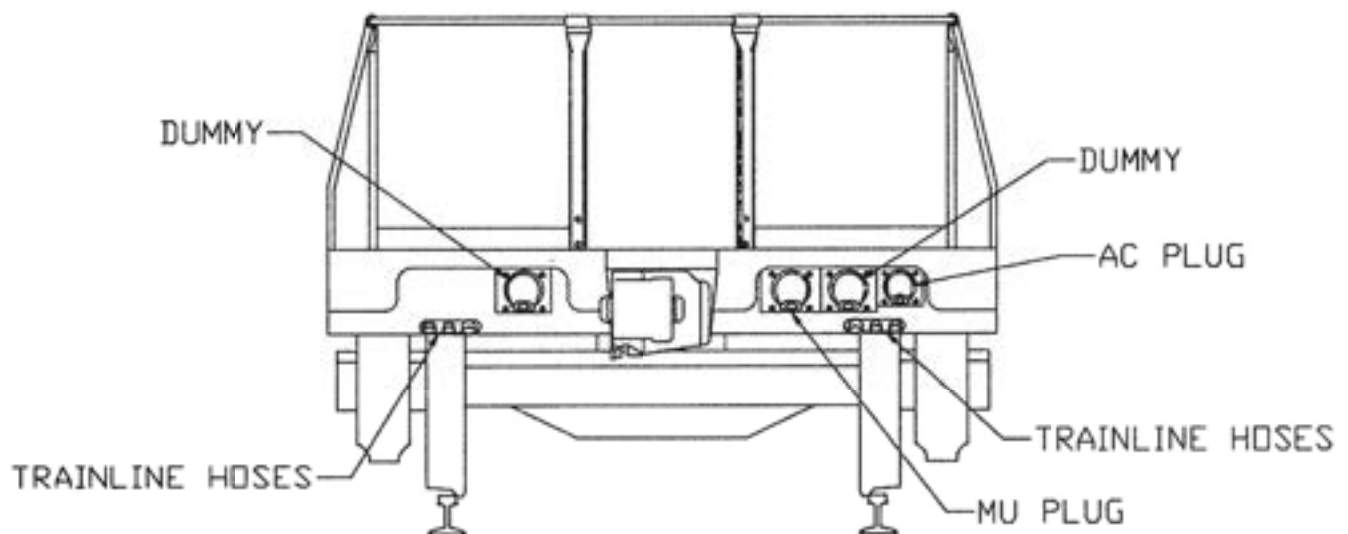

Figure 2.6.1: Electrical Configuration
- Figure 2.6.1 shows the location of electrical connections are located at on the cars